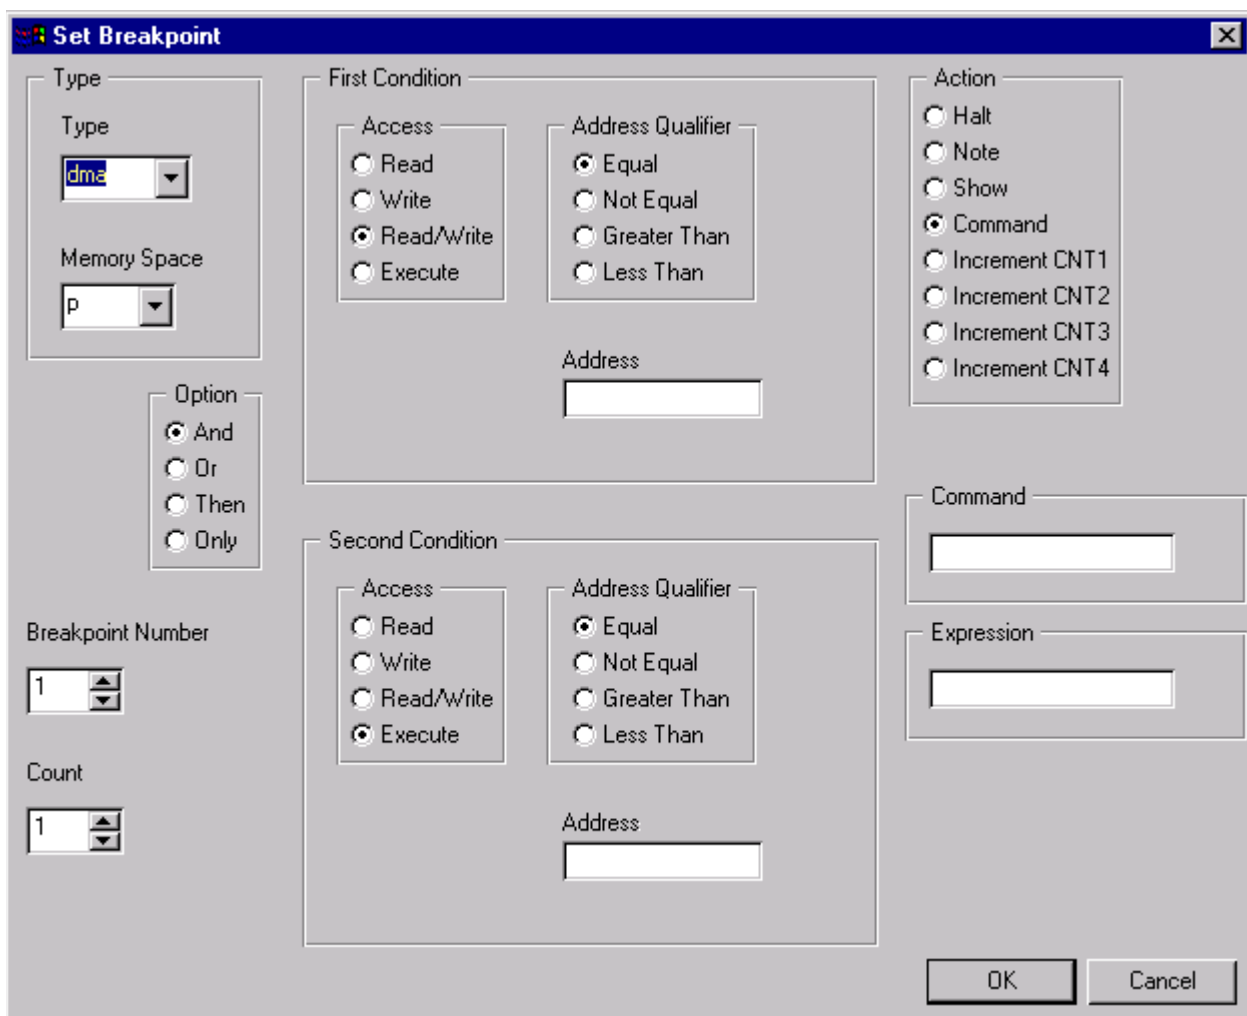

Figure 2-6. Setting a Software Breakpoint
1. From the **Execute** menu, choose **Breakpoints**, then select **Set Software**. The **Set Breakpoints** dialog box shown in Figure 2-6 appears.